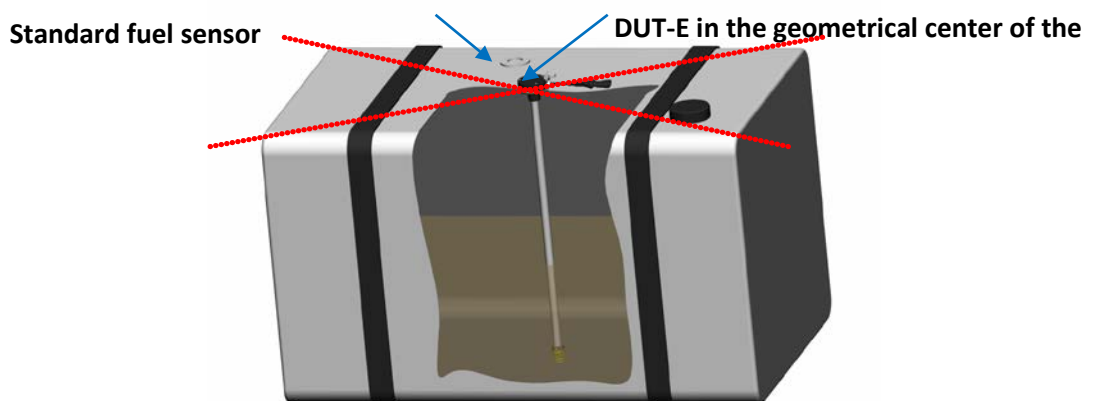

Figure 9 — Recommended location for a DUT-E installation
- 1) determine installation location. Geometrical center of the fuel tank is recommended (see Figure 9), that will reduce measurement errors caused by fuel level deviation during driving.